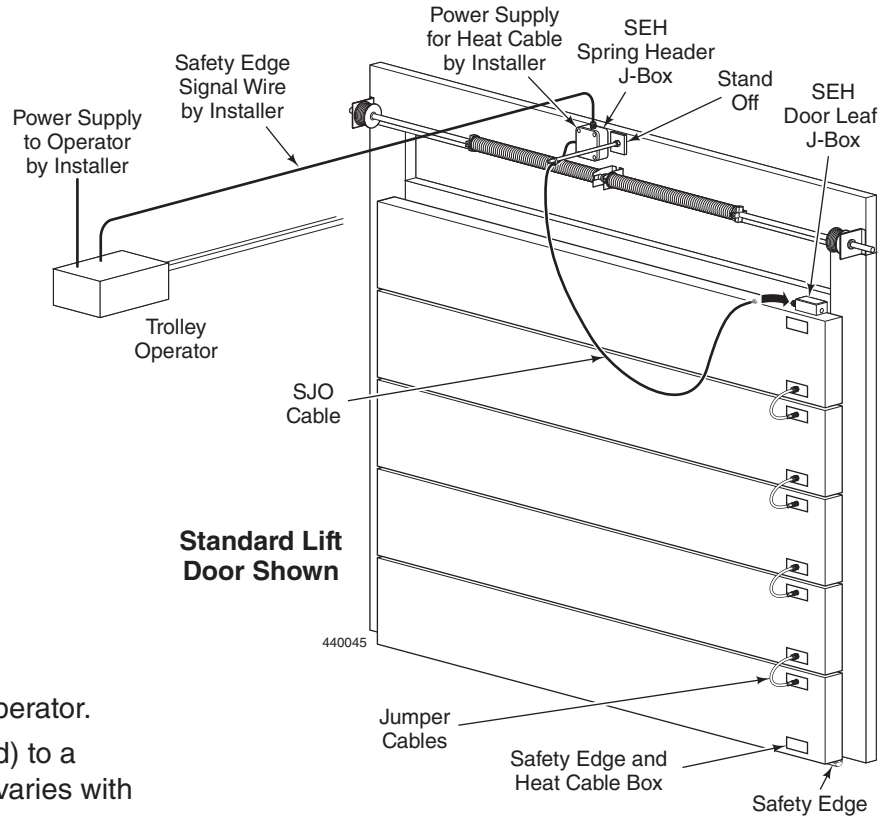

Figure 36
1. Connect the SJO Cord wires from the 4x4 SEH Spring Header J-Box to the Safety Edge wires and Heater wires (if so equipped) in the 2x4 SEH Door Leaf J-Box. The cord must be routed to clear the springs, secured to the end of the stand off, and cut to length before connecting it to the SEH Door Leaf J-Box. Be sure to check the cable length with the door in both the open and closed positions before cutting. See Figures 36 and 37.